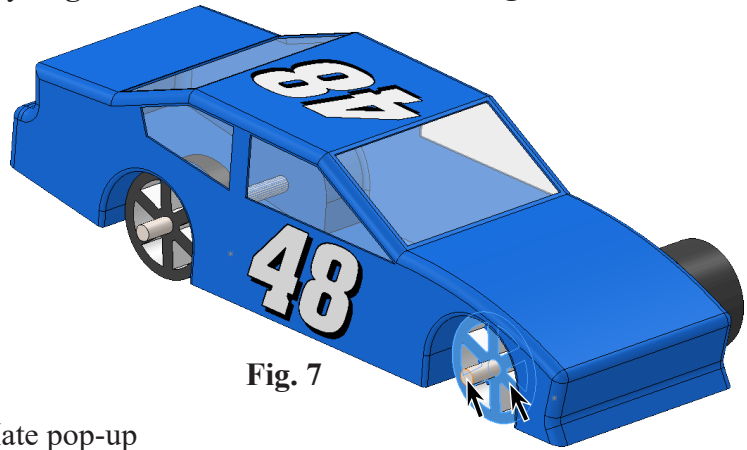

Fig. 7
Step 3. Click **side face Front Wheel** and **end face of Front Axle**, **Fig. 7**.